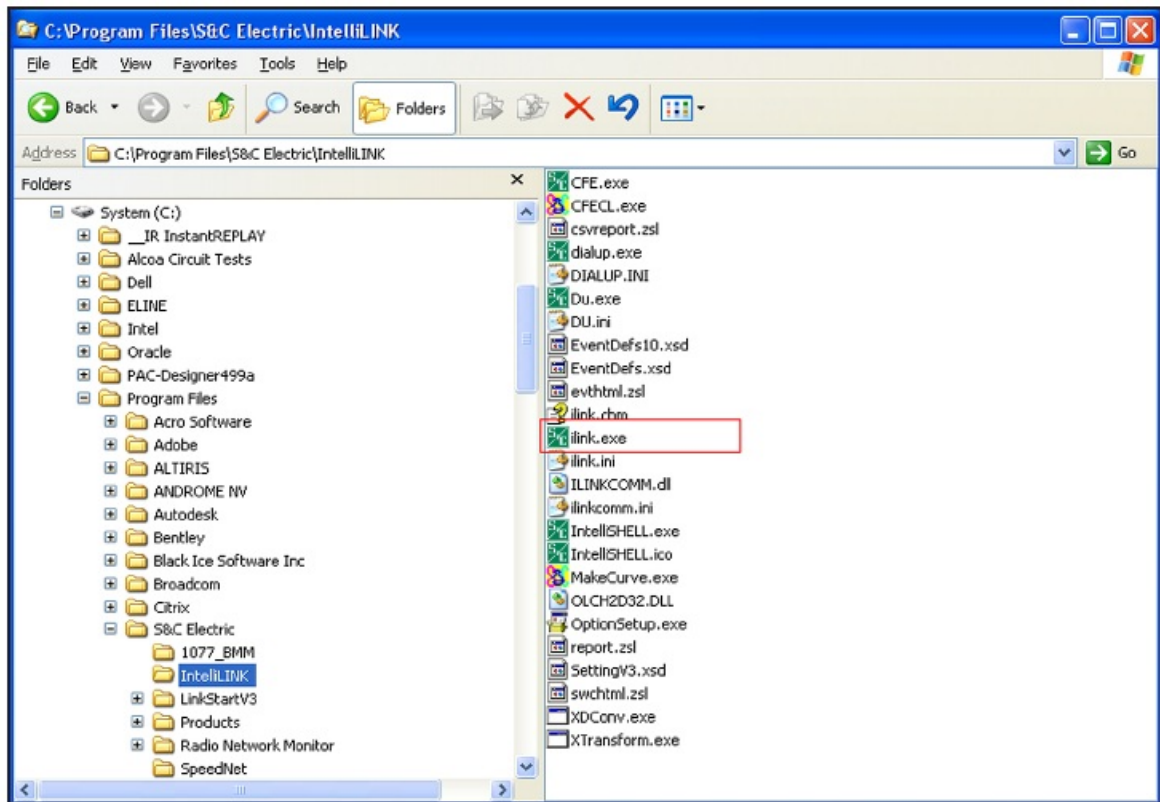

Figure 8. Location of the IntelliLink Setup Software application file.
- **STEP 1.** IntelliLink Setup Software is installed by default in the C:\Program Files\S&C Electric\IntelliLink folder. Double-click on the ilink.exe file to launch the IntelliLink software. The location of this file is shown in Figure 8.